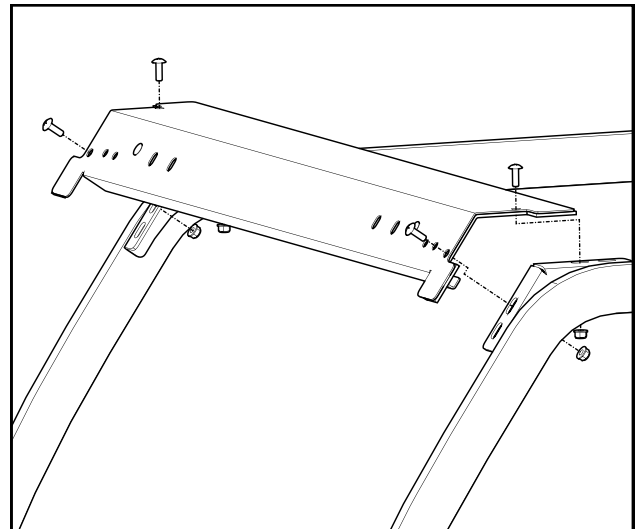

Fig. 7.1 (Windshield Support)
**7.1** Install windshield support. See Fig. 7.1. Tighten at this time.